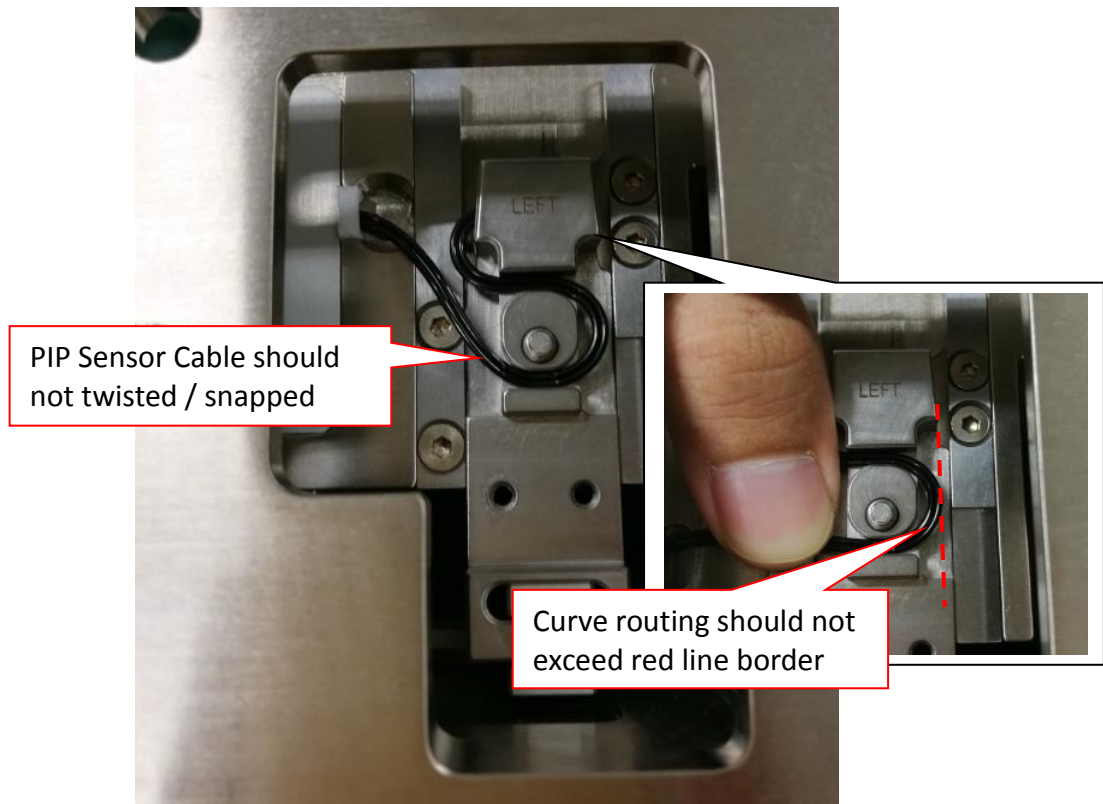

Figure 10 PIP Sensor Cable S-shape routing
3. Route PIP Sensor Cable by refer to below routing. May refer to Figure 10.